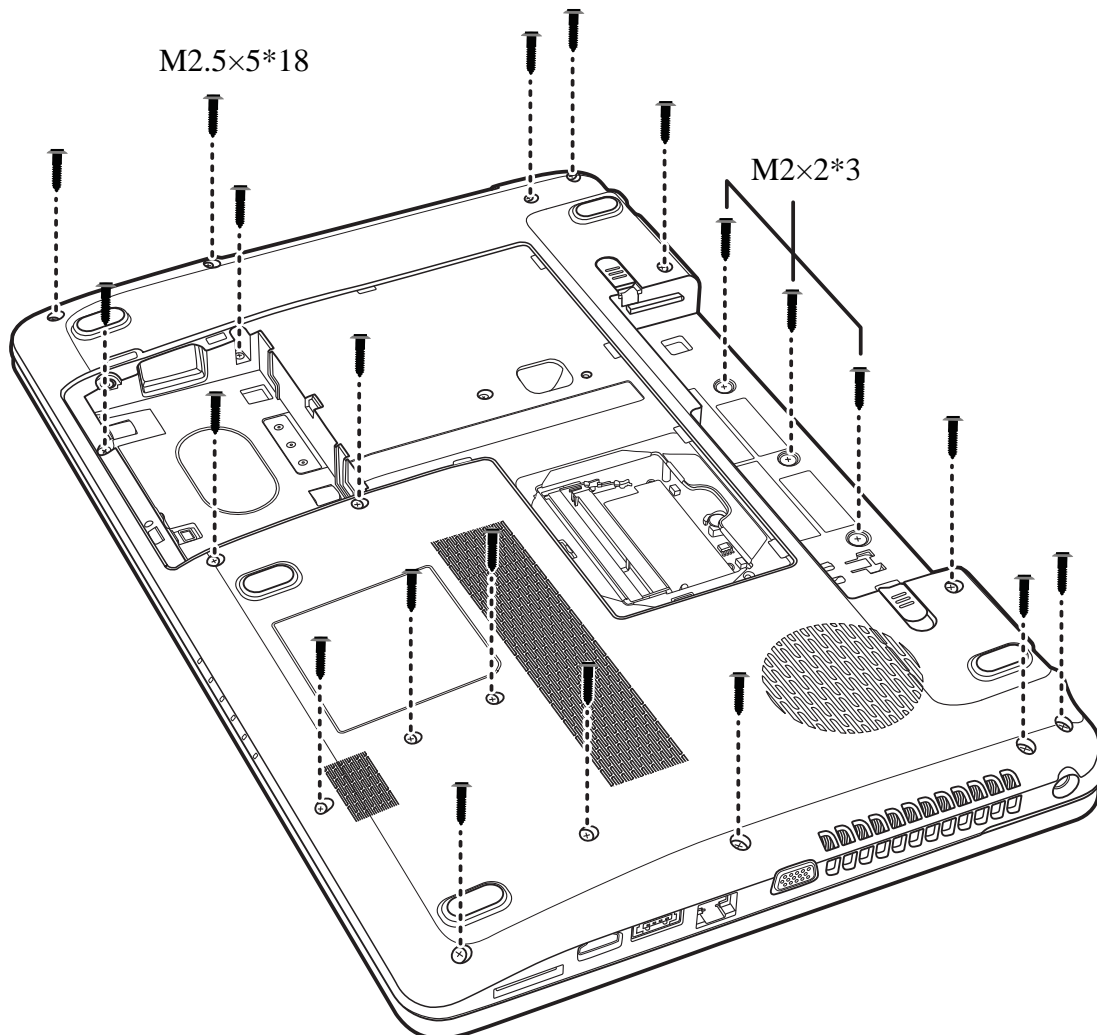

Figure 4.13 Removing twenty-one screws from the bottom of the laptop
Remove the logic upper assembly according to the following procedures and Figures 4.13, 4.14 and 4.15.
6. Secure the logic upper assembly with twenty-one screws as indicated in Figure 4.13: